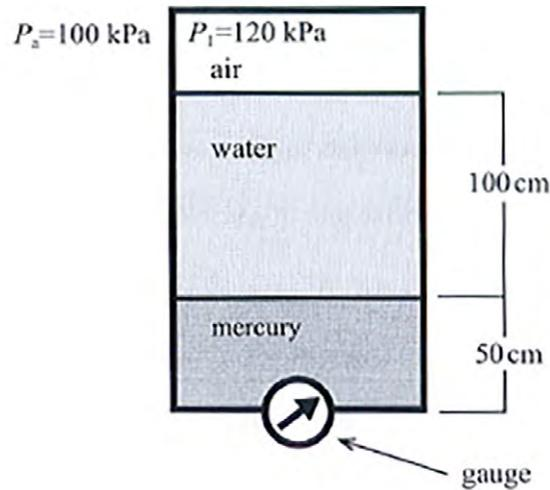

Fig. 6
- (e) Fig. 6 shows a cross section of a tank filled with water, mercury and air.